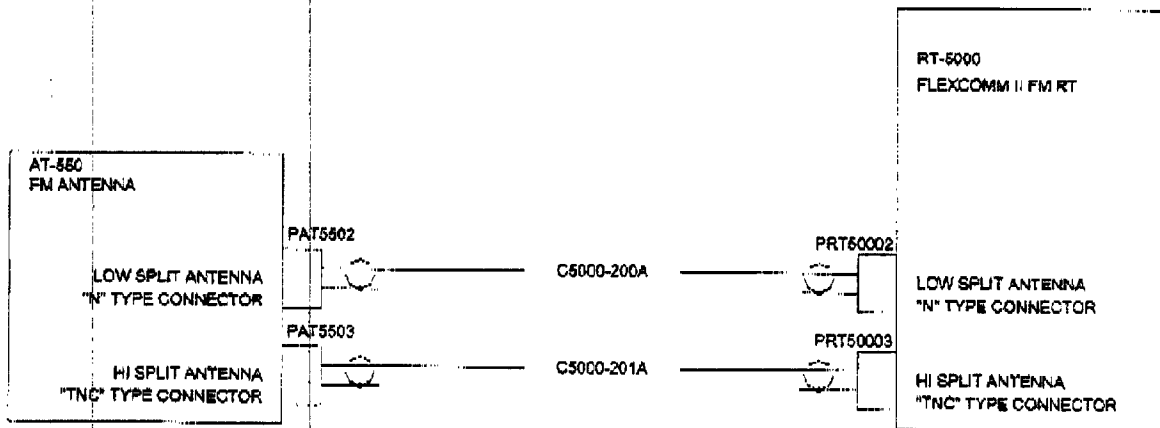

Figure 3
5. Reinstall the modified coax cables, and connect them as shown in Figure 3.